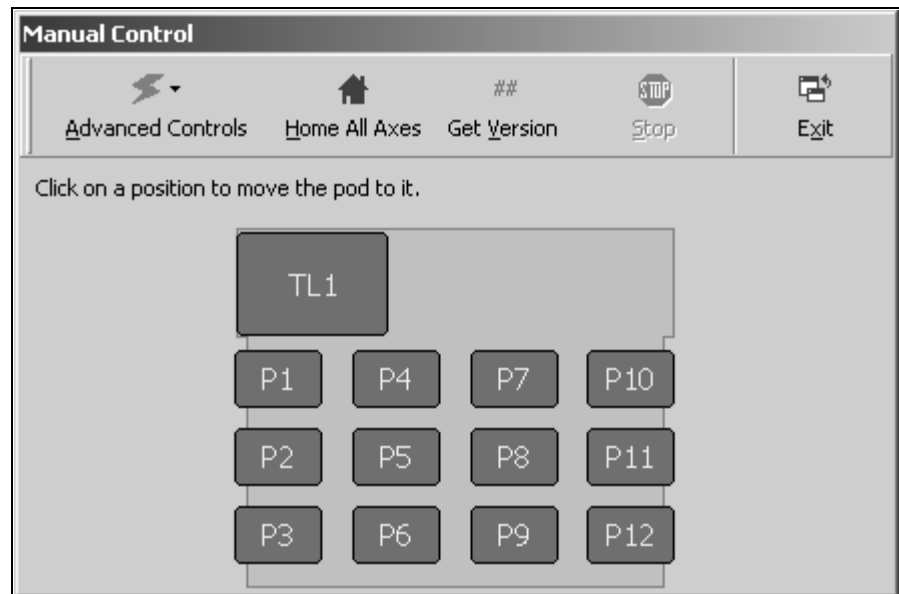

Figure 3-11. Manual Control
1. Choose **Instrument>Manual Control**. **Manual Control** appears (Figure 3-11). Here is where you choose the position to which you want to move the pod.